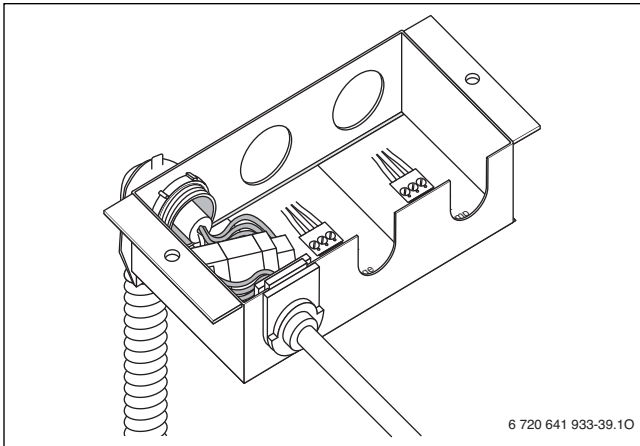

Fig. 57 Cable connected (mains power supply)
- ▶ Insert cable into the junction box as shown in Fig. 57.